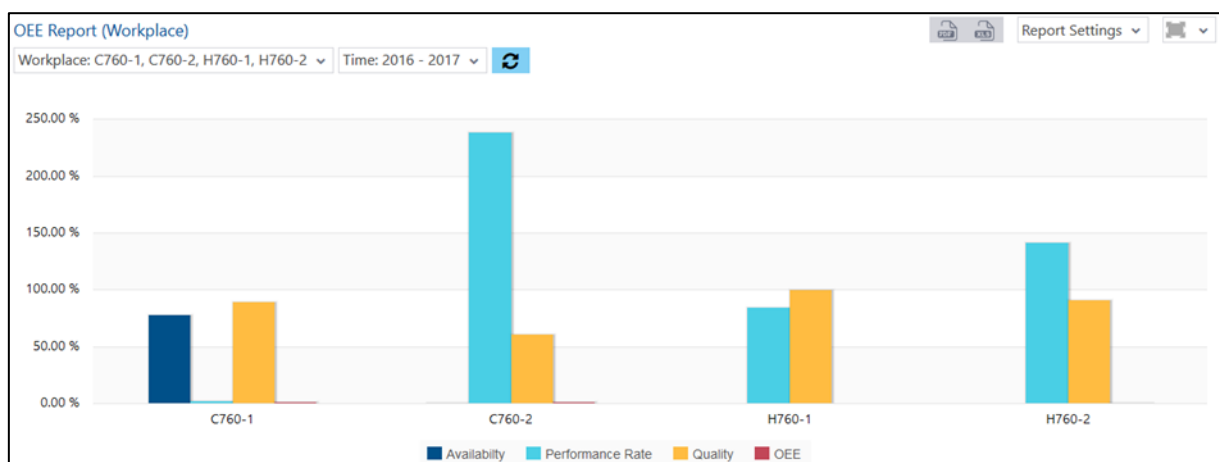

Fig. 45: OEE report (workplace) as column chart
- OEE report (workplace) as column chart (fig. 45):